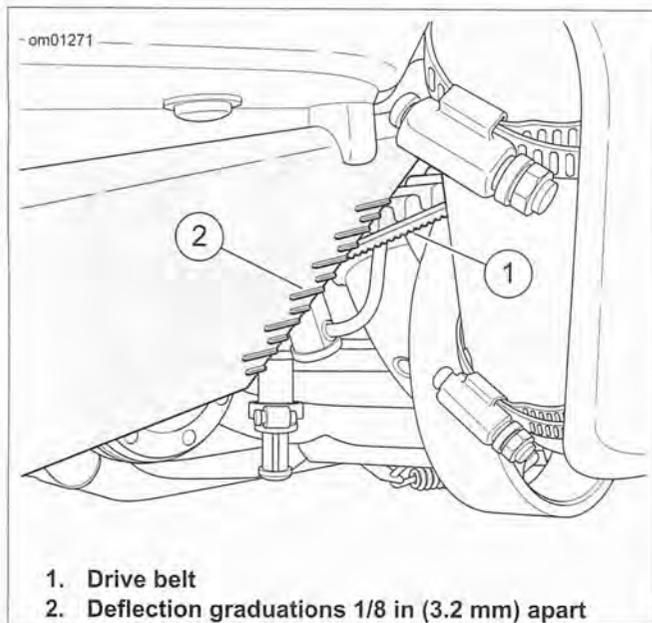

Figure 1-51. Belt Deflection: XR 1200X
- b. **XR 1200X:** See Figure 1-51. Note the belt position according to the graduations on the front of the debris deflector.